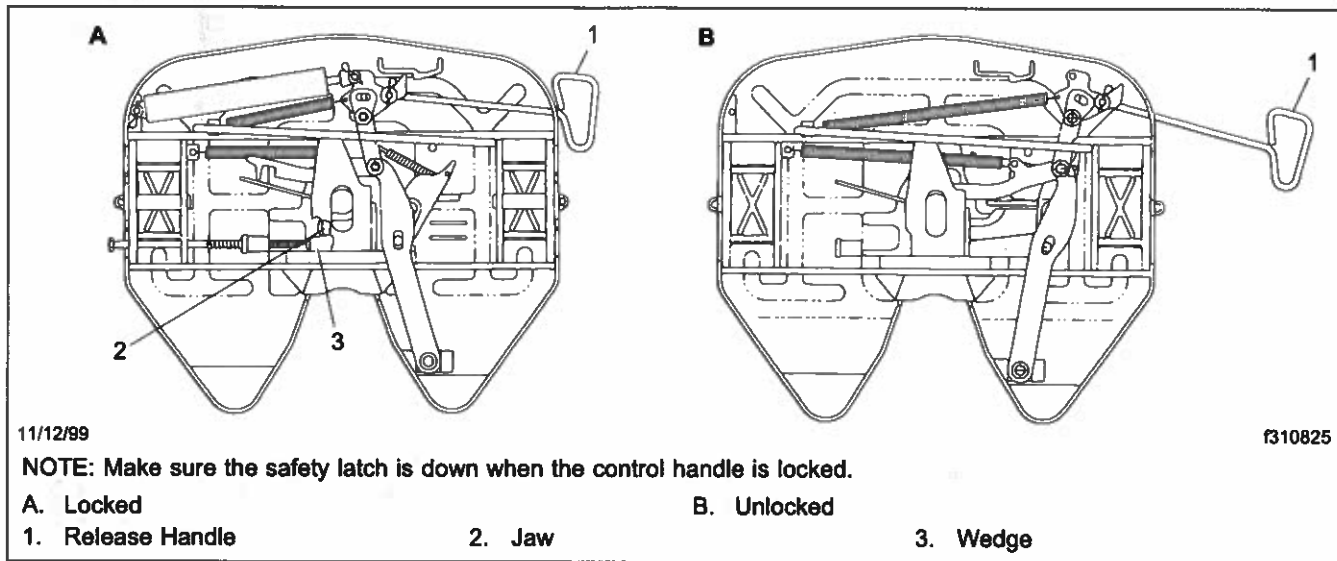

Fig. 10.4, Fontaine 6000/7000 Series Fifth Wheel, Locked and Unlocked (bottom view)
6. Make a visual and physical check for positive kingpin lockup. When lockup has occurred, the fifth wheel release handle will have moved to the locked position. See **Fig. 10.4**.
6. Release the kingpin locking mechanism by pulling the release handle to the unlocked position. See Fig. 10.4.